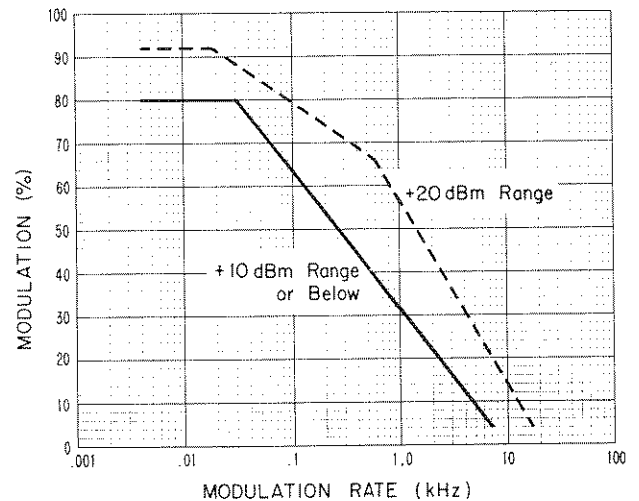

Figure 3-9. Maximum Percent Modulation versus Modulation Rate
- 9 EXT AM. Input for external amplitude modulating signals (see Figure 3-9).
Internal am, fm or external am may be applied in CW or any sweep mode. External am limits are shown in Figure 3-9.
±5% at a 1 kHz rate. The external am is adjustable from about 10% at 0.5 kHz rate, 50% at a 400 Hz rate, 80% at a 10 Hz rate (see Figure 3-9 for maximum limits).